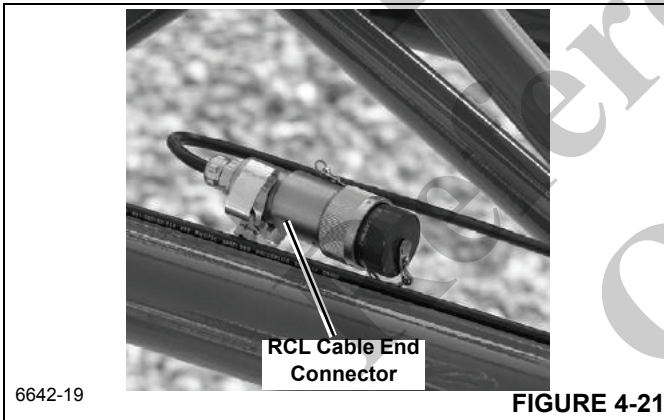

FIGURE 4-21
- a. Remove RCL cable end connector from extension and route through jib Figure 4-21.